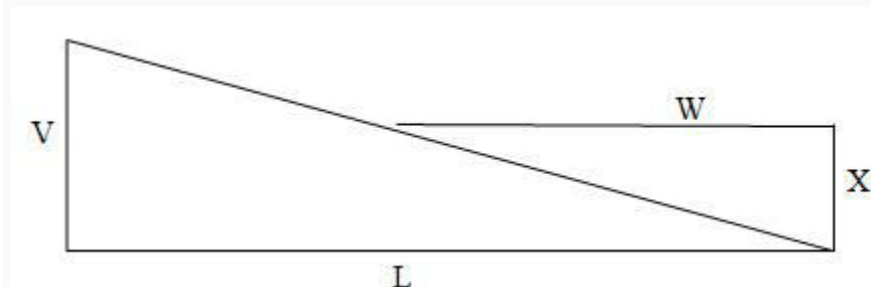

Fig. 6.1. Basic diagram for deriving the height of bund.
3. Size of the Bund: The size of bund includes its height, top width, side slopes and bottom width. The height of bunds mainly depends upon the slope of the land, spacing of the bunds and the maximum intensity of rainfall expected in the area. Once the height of the bund is determined, other dimensions of the bund viz., base width, top width and side slopes are determined using the information on the nature of the soil. Depending on the amount of water to be intercepted, the height of the bund can be calculated as given below (Fig. 6.1).